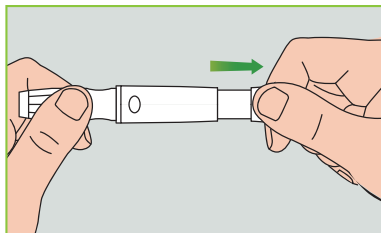

Figure 90
**5** Pull back the cocking barrel (Figure 90) until you hear a click. Now the lancing device is loaded and ready to draw blood.